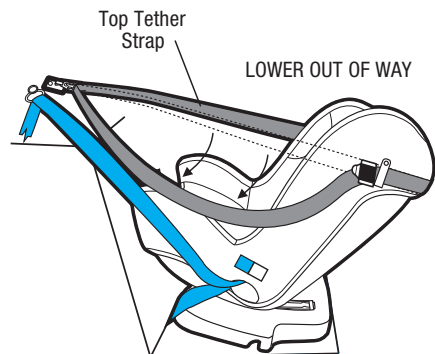

Figure 3
- Lower strap out of way (refer Figure 3).